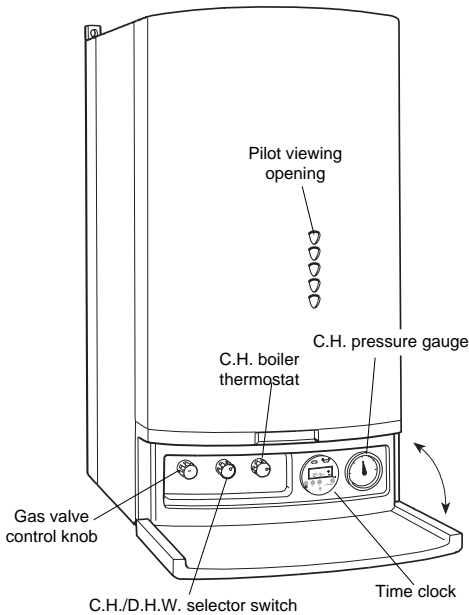

fig. 21
8.5 To Light the Boiler (fig. 21)